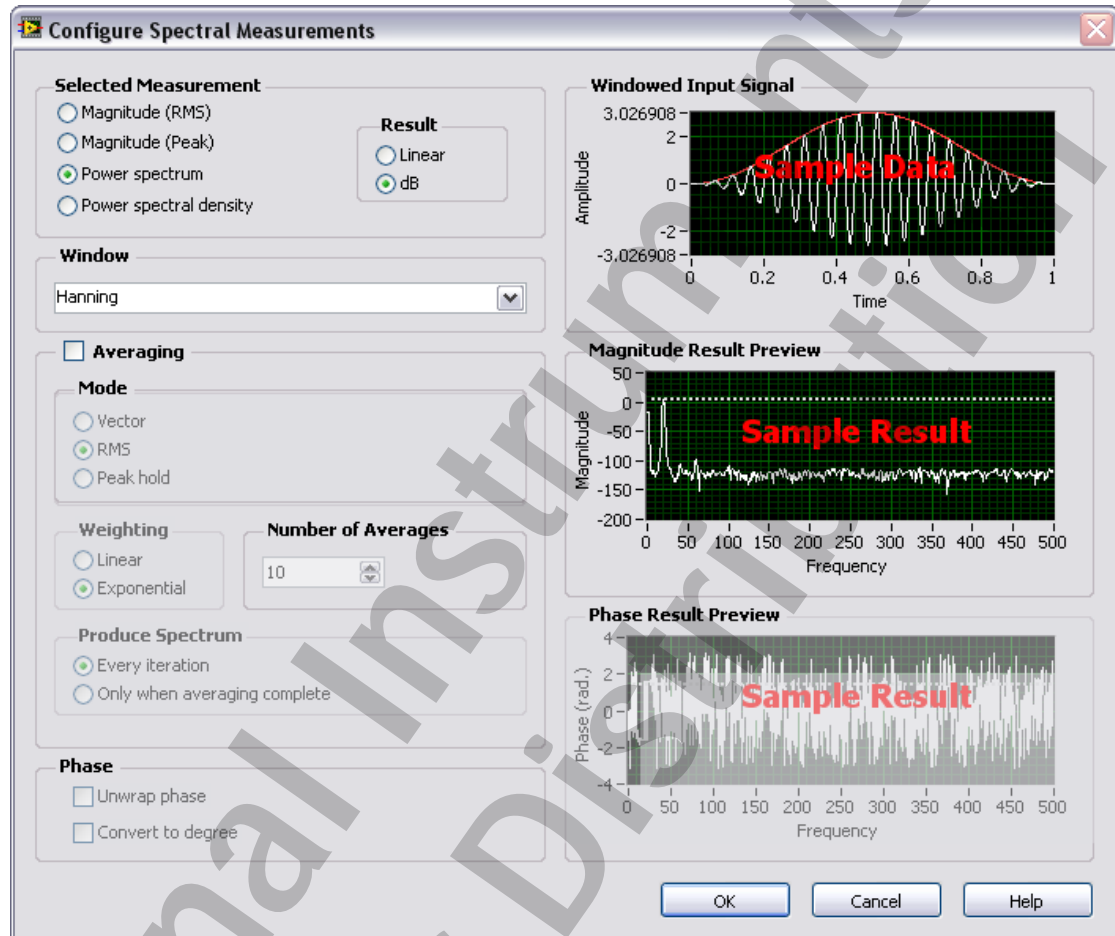

Figure A-3. Configure Spectral Measurements Dialog
- ☐ Spectral Measurements Express VI—This Express VI computes the power spectrum of a signal. In the **Configure Spectral Measurements** dialog box that displays, select the settings shown in Figure A-3.